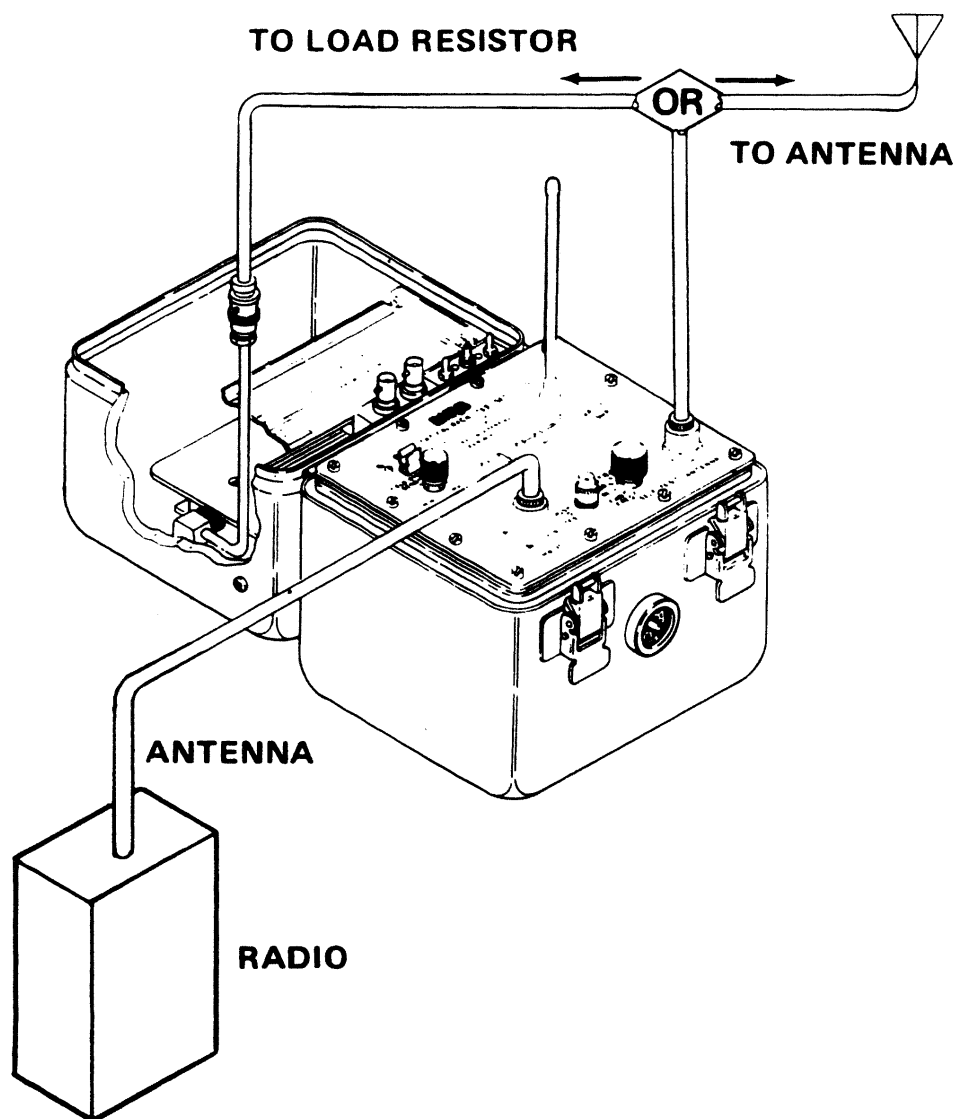

Figure 2-1. Inline Connection Diagram
d. *Inline Connections.* Connect the radio and test set components according to the connection diagram in figure 2-1, and the following instructions.